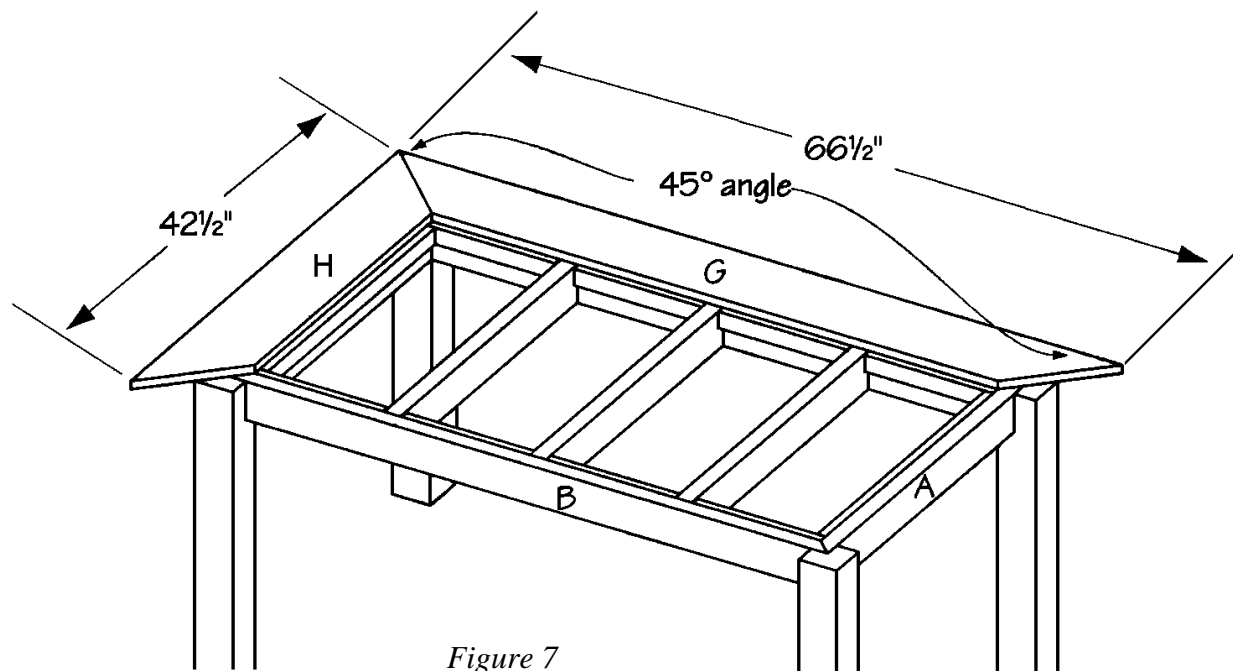

Figure 7
1. Cut two long trim pieces (G) from 1 x 8 pine, each measuring 66-1/2 inches long.
2. Miter both ends of each of the long trim pieces at opposing 45-degree angles, as shown in *Figure 7*.
3. Cut two short trim pieces (H) from 1 x 8 pine, each measuring 42-1/2 inches long.
4. Miter both ends of each of the short trim pieces (H) at opposing 45-degree angles, as shown in *Figure 7*.
5. Fit the long trim pieces (G) over the long sides (B), exactly matching the miters as shown in *Figure 7*. Apply glue to the tops of the long sides (B) and screw through the long trim pieces (G) into the long sides (B). Use 1-1/4"-long screws about every 4 inches.
6. Fit the short trim pieces (H) over the short sides (C), exactly matching the miters. Apply glue to the tops of the short sides (C) and to the miters. Screw through the short trim pieces (H) into the short sides (C) using 1-1/4" screws about every 4 inches. Finally screw at an angle through the ends of the short trim pieces (G), using one 2-1/2" long screw on each joint.